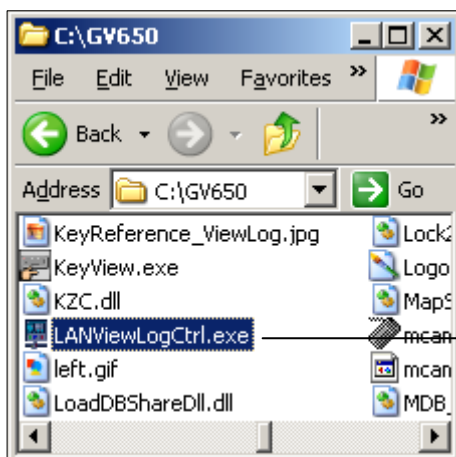

Figure 4-30-1
2. To download LAN ViewLog, locate **LANViewLogCtrl.exe** from the system folder (Figure 4-30-1), and copy and paste this program to your local computer.